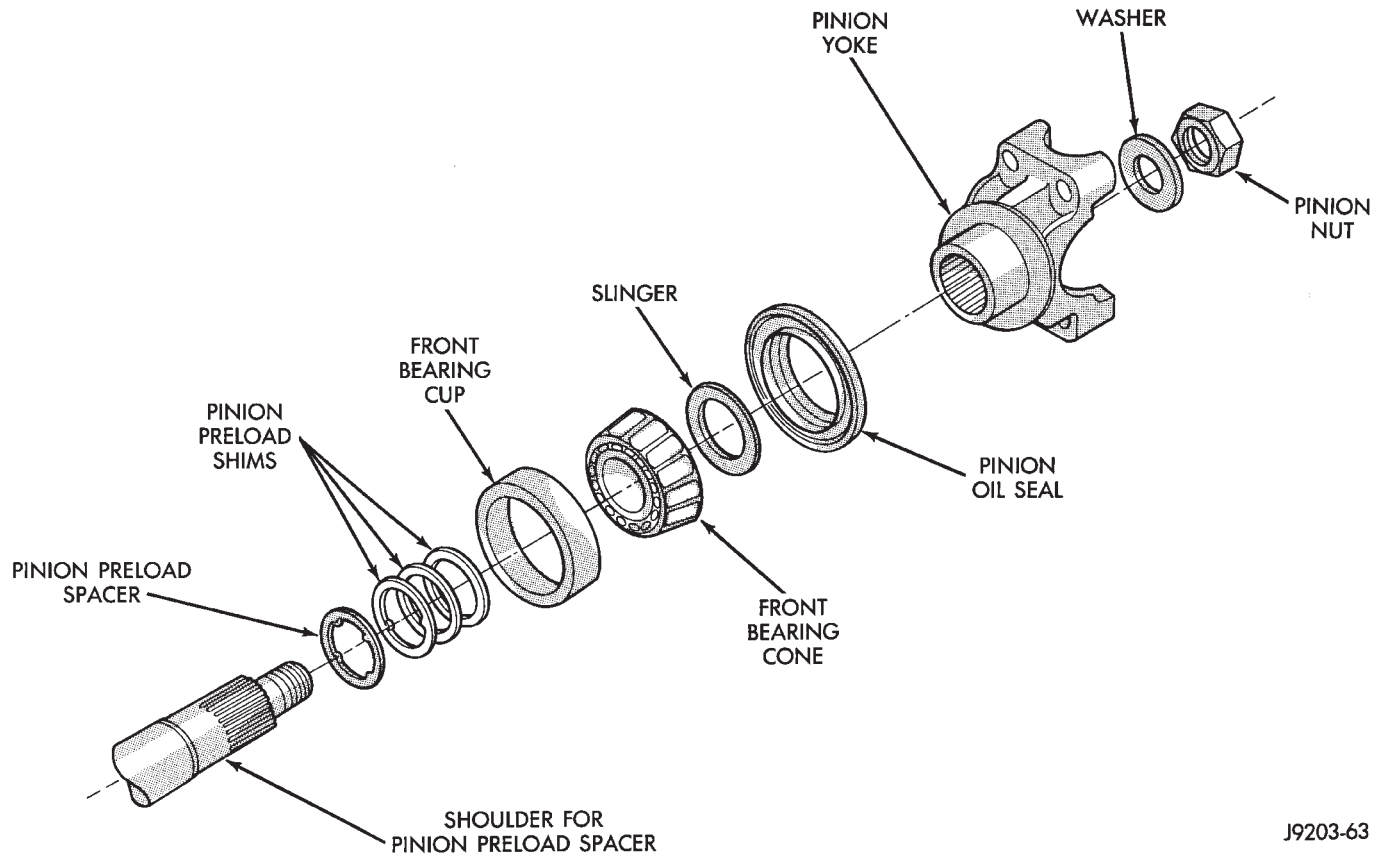

Fig. 25 Pinion Preload Shims
(8) Remove the preload shims (Fig. 25).